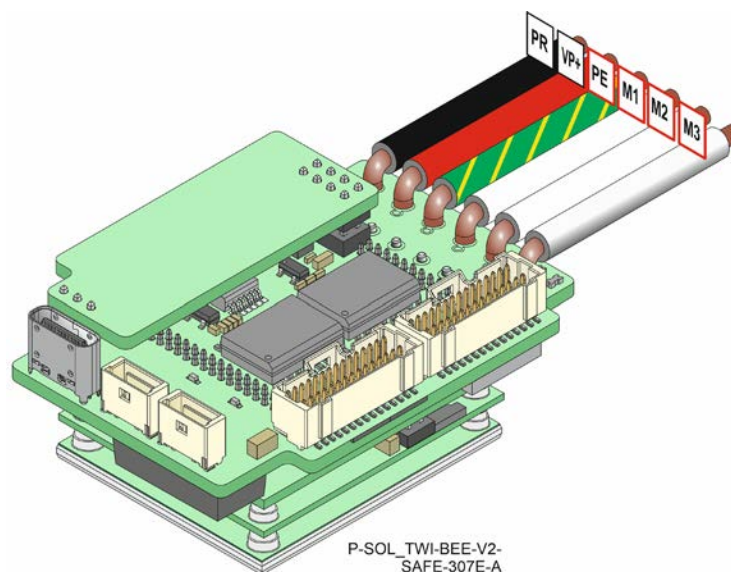

Figure 12: Connecting the Motor Power Wires
4. Connect the motor power wires as shown in Figure 12. The green/yellow wire is the Grounding wire.